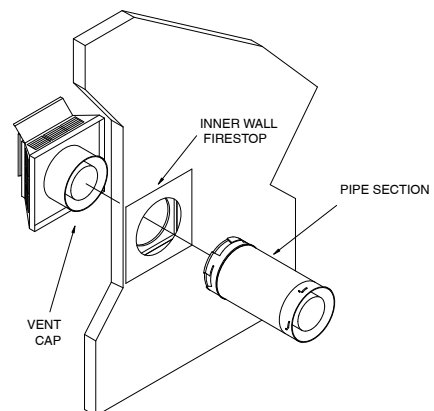
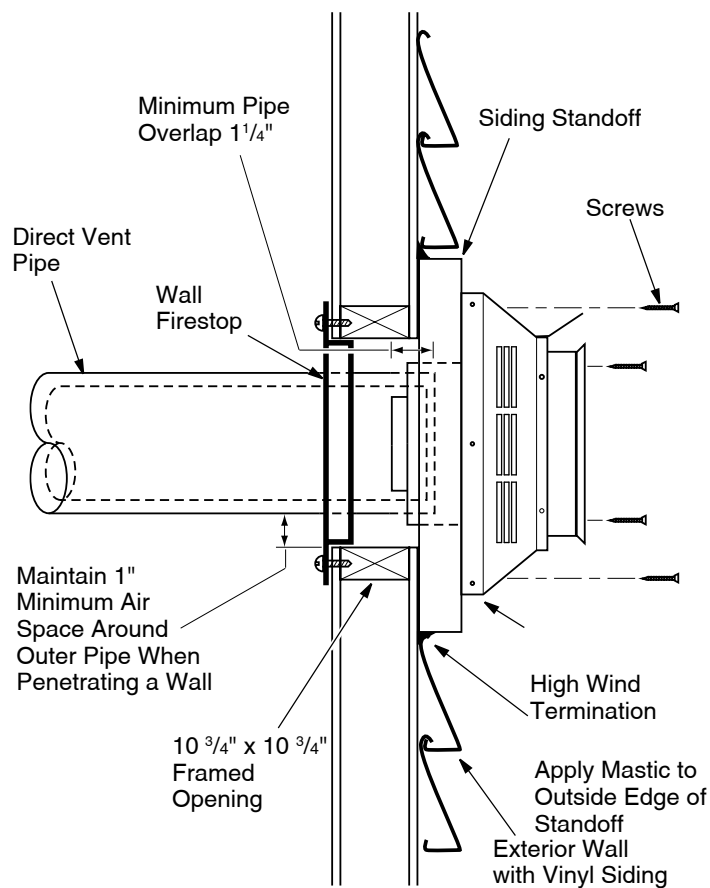

Figure 16 - Installing Inner Wall Firestop
Figure 17 - Typical Horizontal Termination Cap Mounting with Additional Siding Standoff Installed
9. **Combustible Exterior Wall Only:** Slide wall firestop against interior wall surface and attach with screws provided (see **Figure 16**). See **Figure 17** for horizontal termination details.